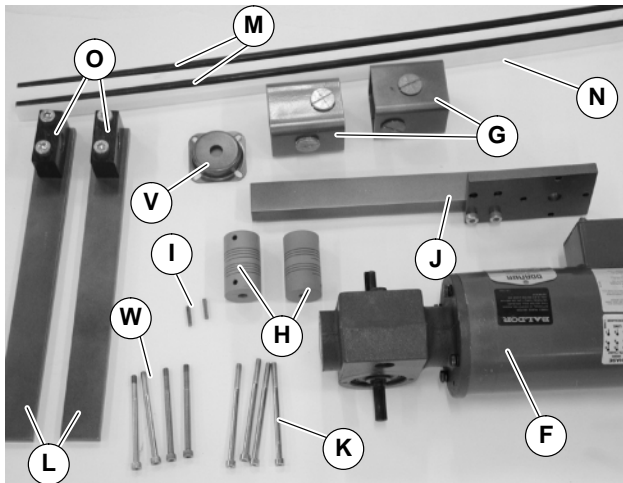
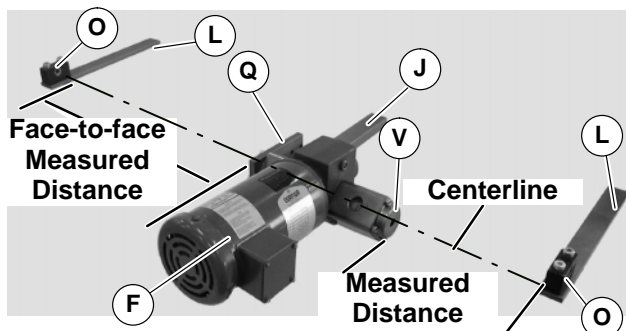

Figure 11
Figure 18
1. Gather components (Figure 11).
**NOTE:** Mounting holes are not provided. Ensure that gearmotor assembly (J of Figure 18) and bearing support assembly (L) are parallel and center-line of coupling matches center-line of bearing block (O).
- Attach gearmotor assembly (J of Figure 18) and bearing support assemblies (L) to mounting surface.
- Measure distances between motor mounting plate (Q) and bearing block (O) and from shaft cover (V) to bearing block (O).
- Cut hex shafts (M of Figure 11) to measured distances (Figure 18) plus 54 mm on both sides of gearmotor assembly.